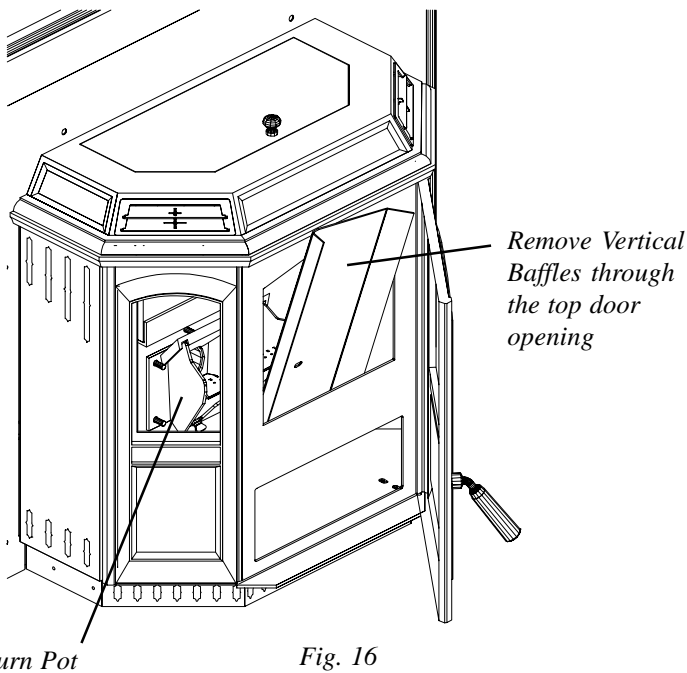
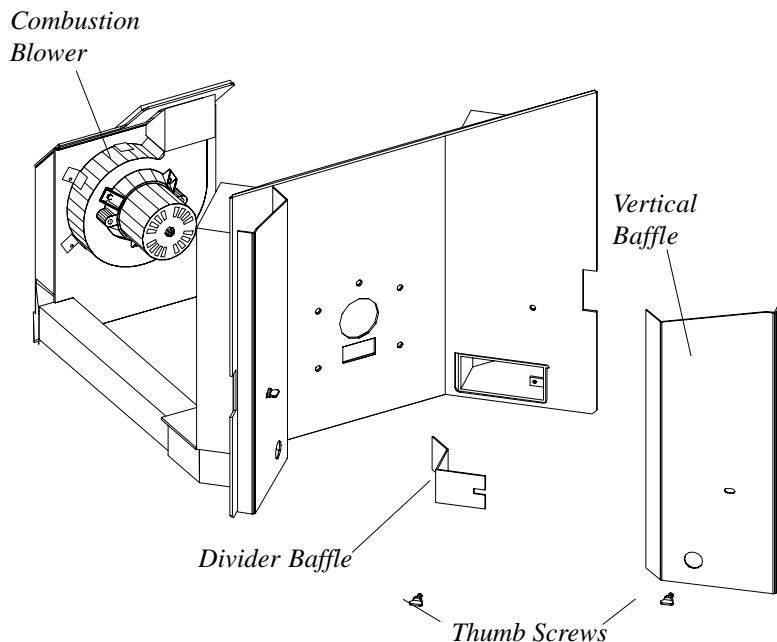

Fig. 16
Fig. 18
- * Remove vertical baffles from firebox by first removing the thumb screws. Next rotate the baffles around to the front and remove through the door opening, fig. 16. This exposes the divider baffles which can be removed by first removing the thumb screws, fig. 18.
Note: Fig. 18 & 19 show heat exchanger and rear firebox only. This is done to better illustrate cleaning.